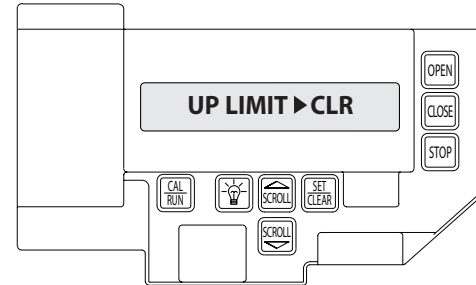

Figure 6
- 2) Press SCROLL  until display reads "UP LIMIT>CLR " or "DOWN LIMIT>CLR " **Figure 6.**